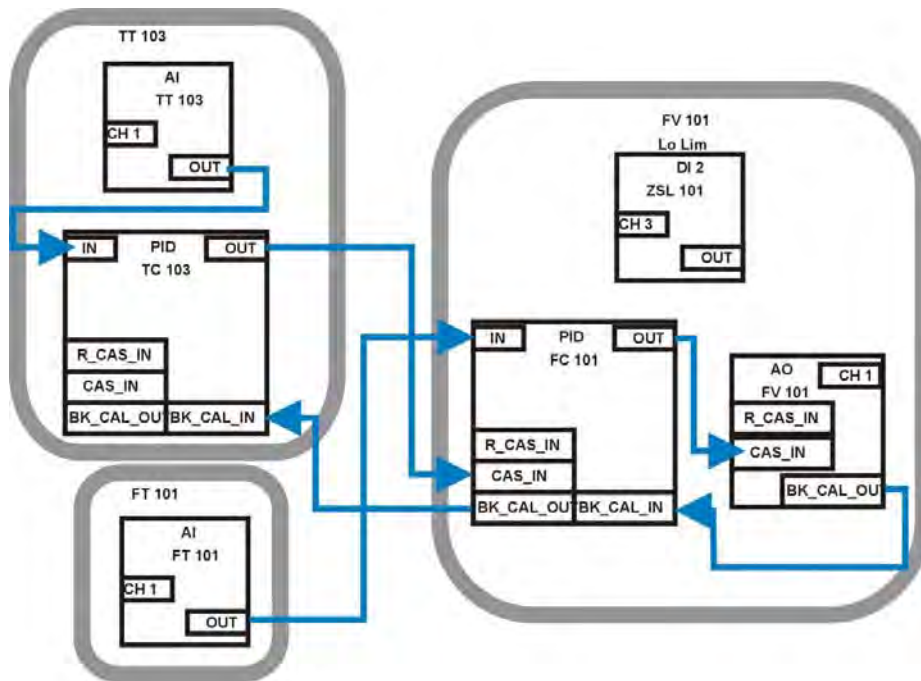
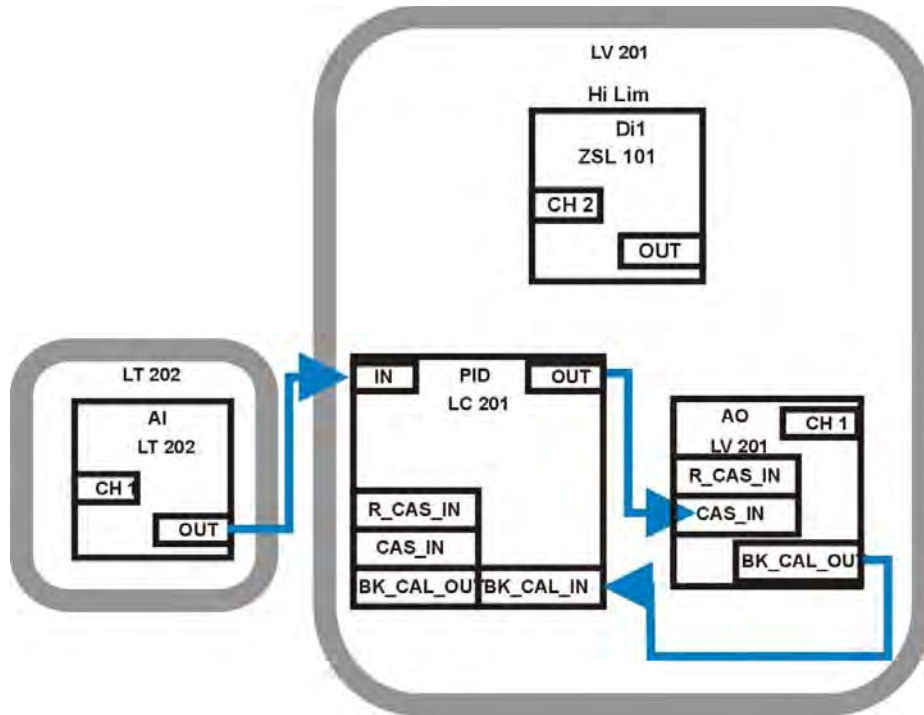

Figure 51 Temperature Cascade Block Diagram
Figure 52 Level Loop Block Diagram
- The coolant flow control valve, FV 101, has a PID control function block, one DI block and an Analog Output block (AO), all located within the valve positioner. The DI block can set either a high limit, a low limit or both the high and low limits.
- The coolant flow transmitter, FT 102, has only a transmitter function. It has Analog Input function block (AI) implemented in its firmware.
- The PID blocks in TT 103 and FV 101 devices are scheduled to work in cascade as shown in Figure 51. The AO block in the FV 101 receives the output from the FV 101 PID block and via the transducer block transmits it to the control hardware of the valve.
All the blocks in the temperature cascade are shown in Figure 51. Similarly The level loop function blocks are shown in Figure 52.